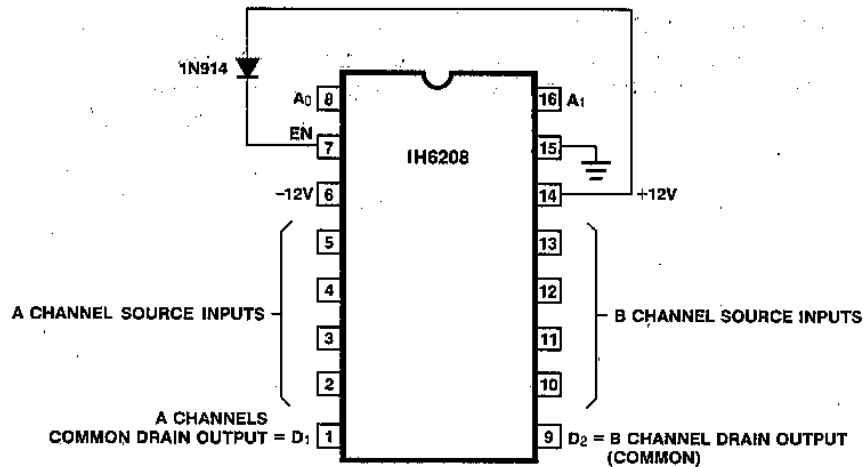

Figure 6. IH6208 Connection Diagram for less than $\pm 15V$ Supply Operation.
Caution must be taken to ensure that the enable (EN) voltage is at least 0.7V below V^+ at all times. If this is not done the Address input strobing levels will not function properly. This may be achieved quite simply by connecting EN (pin 7) to V^+ (pin 14) via a silicon diode as shown in Figure 6. A further requirement must be met when using this type of configuration; the strobe levels at A0 and A1 must be within
2.5V of the EN voltage in order to define a binary "1" state. For the case shown in Figure 6 the EN voltage is 11.3V, which means that logic high at A0 and A1 is = +8.8V (logic low continues to be = 0.8V). In this configuration the IH6208 cannot be driven by TTL (+5V) or CMOS (+5V) logic. It can be driven by TTL open collector logic or CMOS logic with +12V supplies.